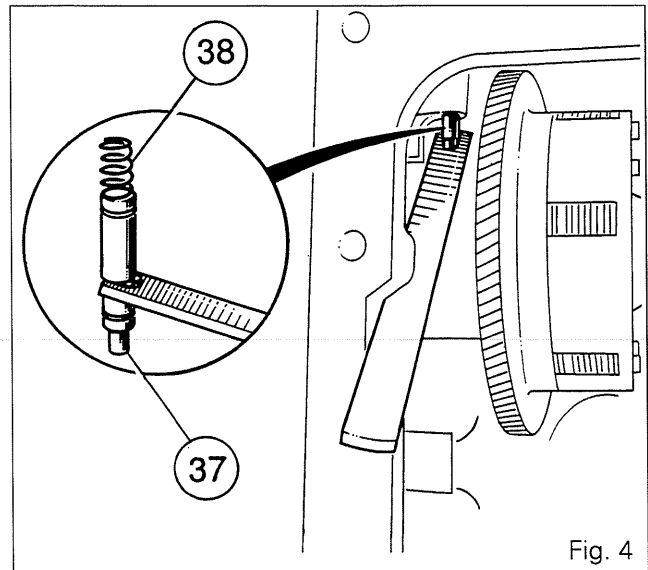

Fig. 4
10. If necessary, replace the seals (34), (36) and (39). Refit the tube (37) and the spring (38). Reconnect the 17-bar pipe (40). Tighten the bolts (44).
11. Check that the O-rings (32) and (35) are not damaged.
12. Place spring (43) in the sleeve. Compress spring (38) by tube (37) using the locally made tool (Fig. 4).